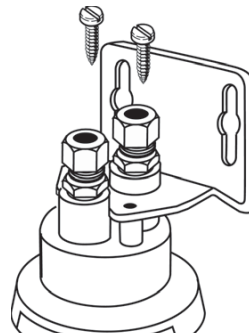

Figure 5
5. Remove the two screws at top of head assembly. Position either inlet fitting or outlet fitting through large hole in bracket and replace these two screws. Filter head is now mounted and ready for plumbing. (Figure 5)